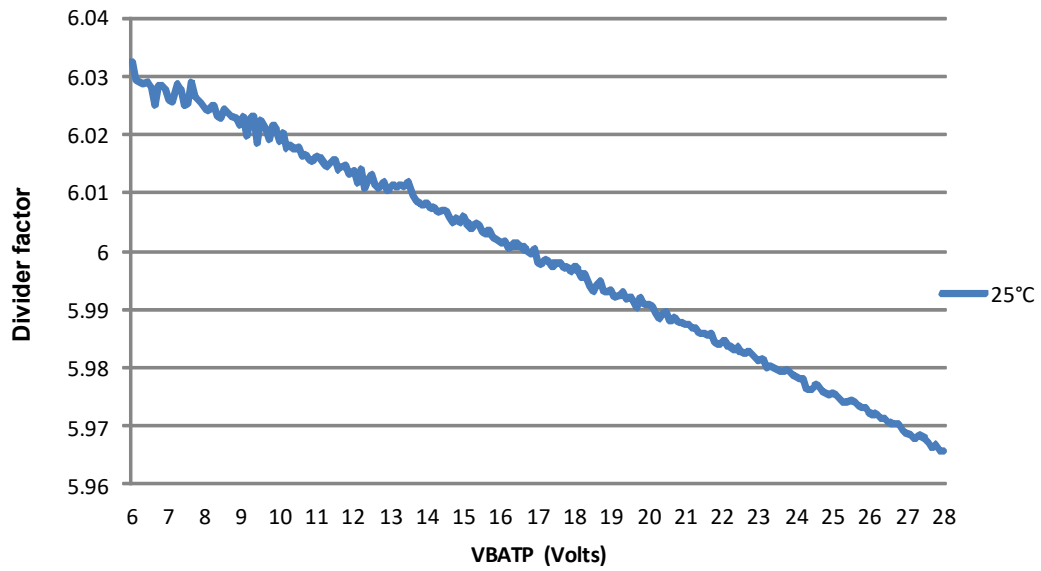

Figure 5. Divide by 6 coefficient accuracy
23. Calibration of divider ratio can be done at $V_{BAT} = 12\text{ V}$, $25\text{ }^\circ\text{C}$ to achieve a higher accuracy. See Figure 5 for AMUX offset linearity waveform through the operating voltage range.